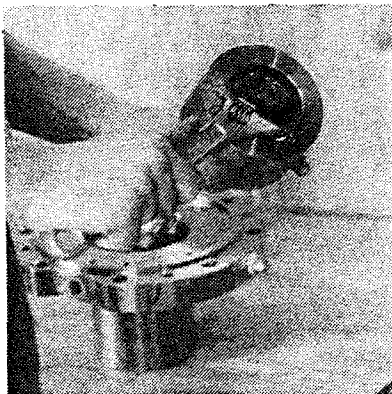

Figure 23
13. Loosen the sleeve bolt set screw (Item 12) and remove the sleeve bolt (Item 7) [Fig. 23]. Remove the sleeve, the thrust ring, the inner magnet, and the inner magnet key (Item 16).